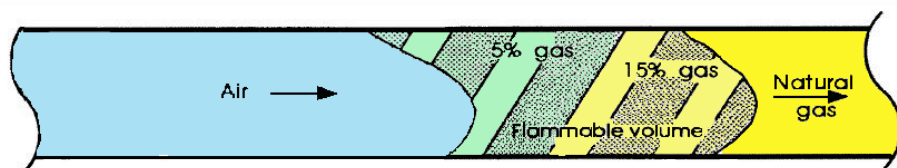

Figure 100- Purging at Correct Velocities Causes Minimal Mixing
2. The correct purge velocity will be achieved by using the correct air inlet holes and vent diameters together with the minimum size and number of compressor from Table 48 and the gas will be safely removed Figure 100.